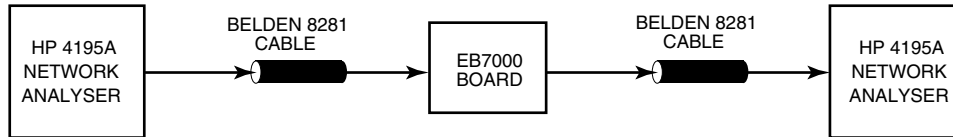

Fig. 1c Test Setup for Return Loss Measurements
- Evaluated using test setup Figure 1c.
- 6. Evaluated using test setup Figure 1c.